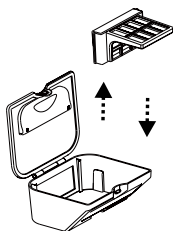

Fig.3
01. Open the upper cover of the dust bin, pour out the dirt and other junk (Figs. 3,4, and 5).